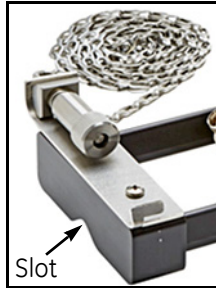

Figure 12: Cutout Slot
5. Verify that the pipe rests in the small cutout slot on the bottom of the end pieces (see *Figure 12* below). Also, be sure that the scale markings on the rail rod of the clamp-on fixture can be easily read after the installation has been completed.